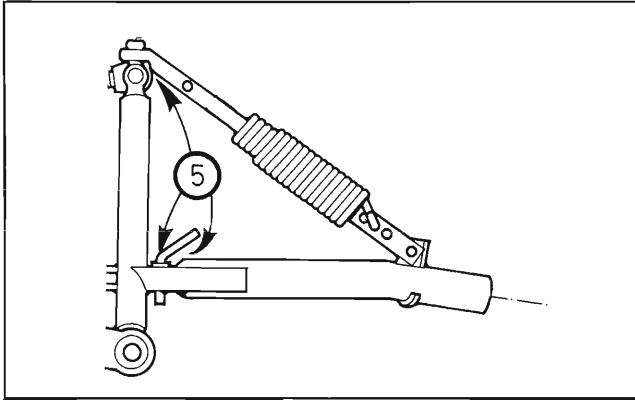

Fig. 2
4. Attach the Main Frame and the Telescoping Spring assembly onto the 3-point Hitch (5 of Fig. 2).